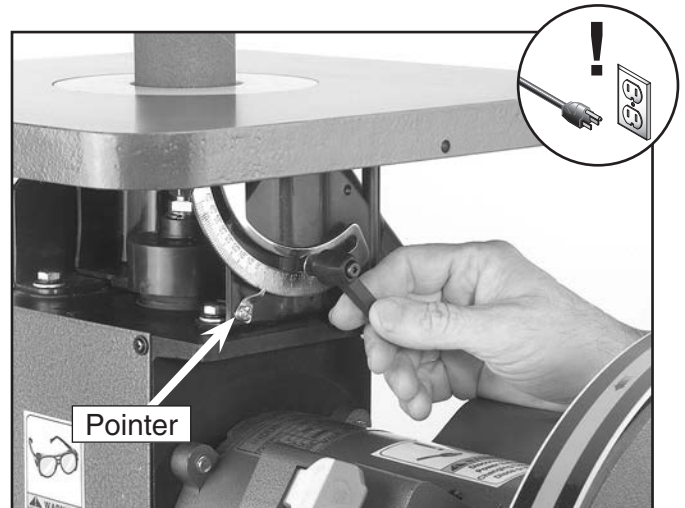

Figure 9. Setting the table scale at 90°.
2. Set the table at 90°, as shown in **Figure 9**.